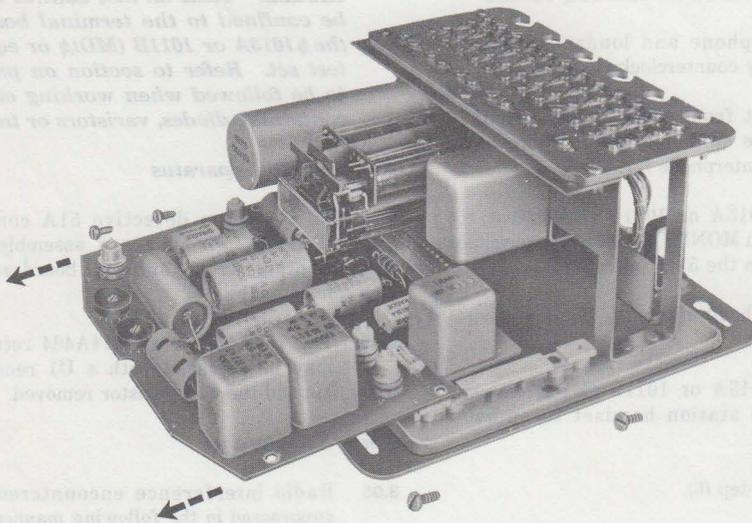

Fig. 5—Wiring Board Assembly Removal
- 3.04** To replace a defective 51A control unit (P-11E655 wiring board assembly) remove four mounting screws and pull board away from jack connector (Fig. 5).